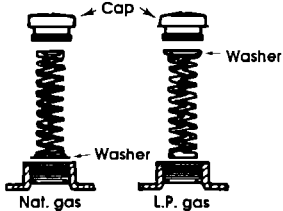

Figure 6
4. Remove the cap with screwdriver slot. Carefully remove the spring, then the washer. Place the spring on the regulator first, then the washer. Replace the cap over the washer and spring. Tighten cap. See Figure 6.